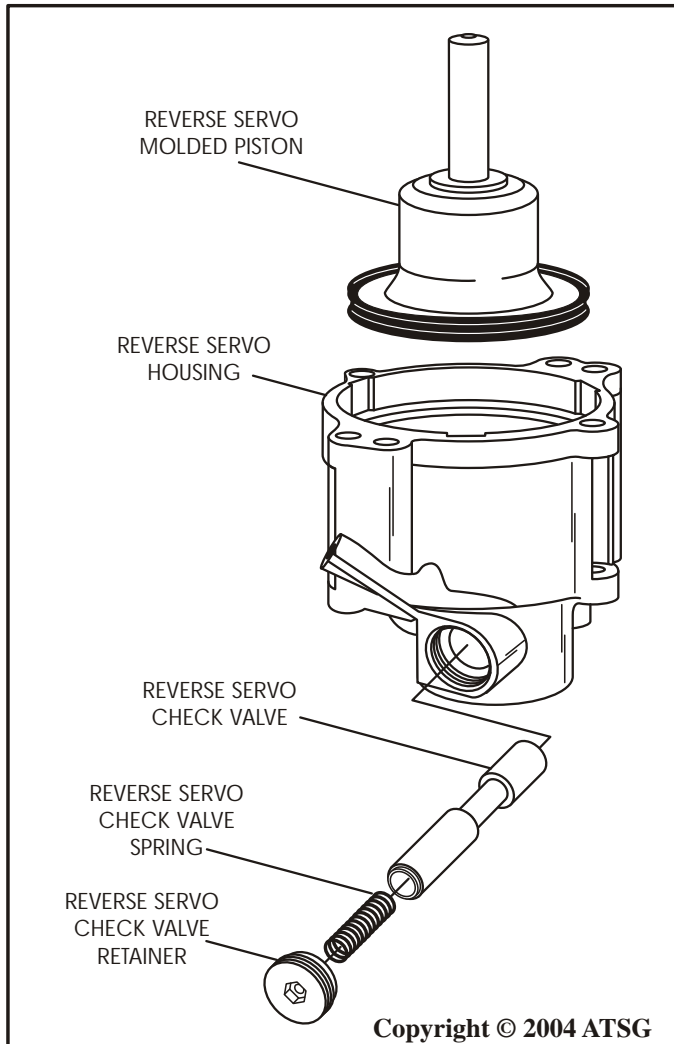

Figure 115
8. Lubricate the reverse servo check valve with Mercon® V, and install in housing, as shown in Figure 115, followed by the spring and the retainer.
9. Lubricate the reverse servo piston with a small amount of Trans-Jel®, and install into reverse servo housing, as shown in Figure 115.